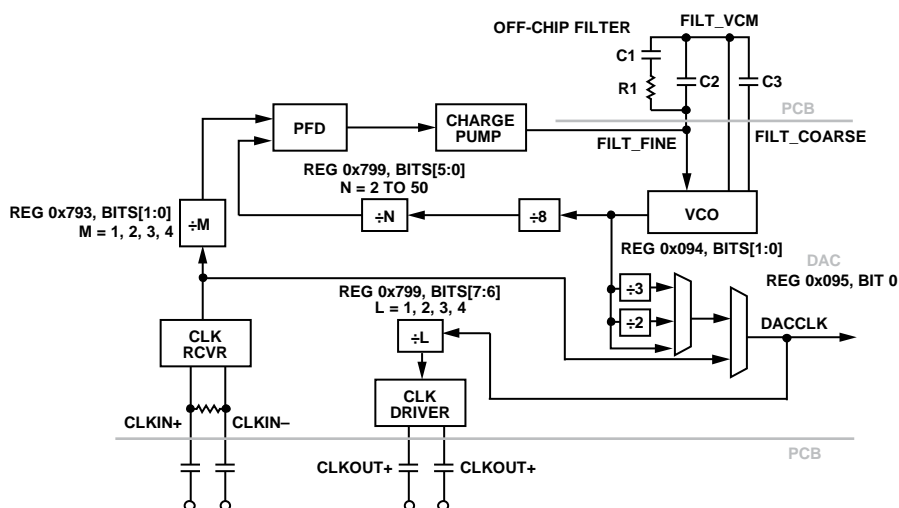

Figure 92. DAC PLL and Clock Path Block Diagram
The AD9175 includes an integer PLL/VCO block that allows generating a DAC clock ( $f_{DAC}$ ) from an external reference frequency ( $f_{REF}$ ) between 25 MHz and 3080 MHz, applied to the CLKIN± pins (see Figure 92). When using the on-chip PLL, select the predivider (M) via Register 0x793, Bits[1:0] to internally divide the reference frequency to be within the range of 25 MHz to 770 MHz of the phase frequency detector (PFD) circuitry block input. Enable the DAC PLL synthesizer by setting Register 0x095, Bit 0 to 0.
To generate the required VCO control voltage from the charge pump (CP) output, the AD9175 DAC PLL requires an external loop filter. The recommended filter is a passive low-pass filter of a topology similar to the one shown in Figure 92. Generally, the pass band width of the filter (bandwidth) trades off loop response time during a frequency change with loop stability after the initial frequency lock occurs. For proper filter layout and component selection, which results in optimal performance for most applications, refer to the documentation of the AD9175-FMC-EBZ evaluation board. The user may however customize the filter to fit a specific application, according to the PFD